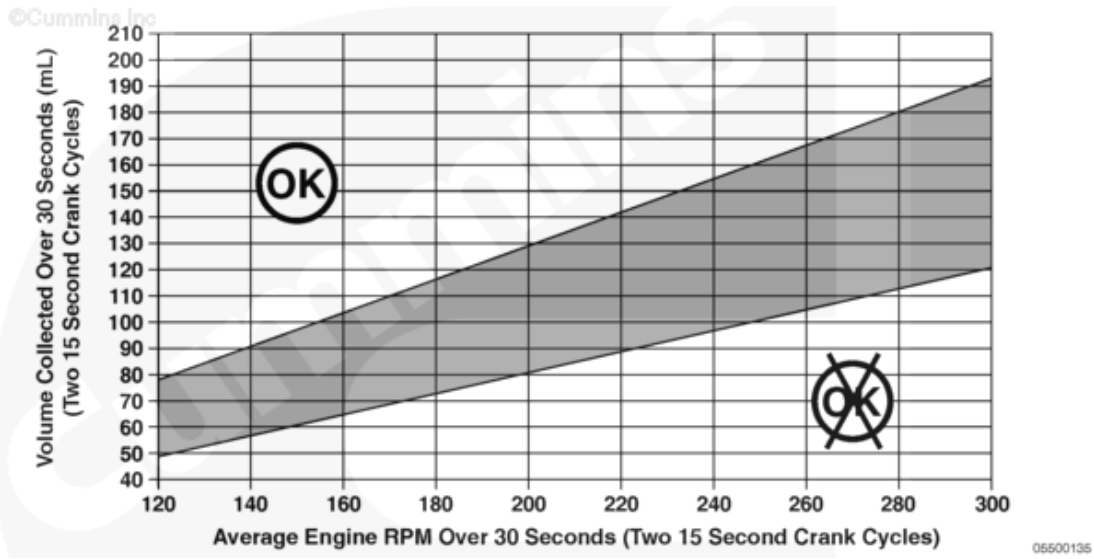
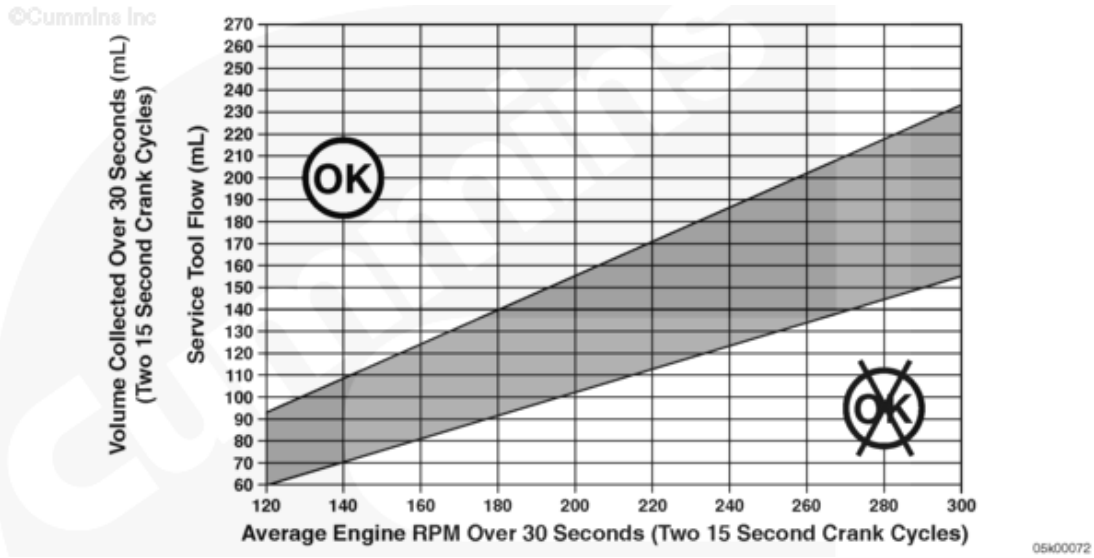
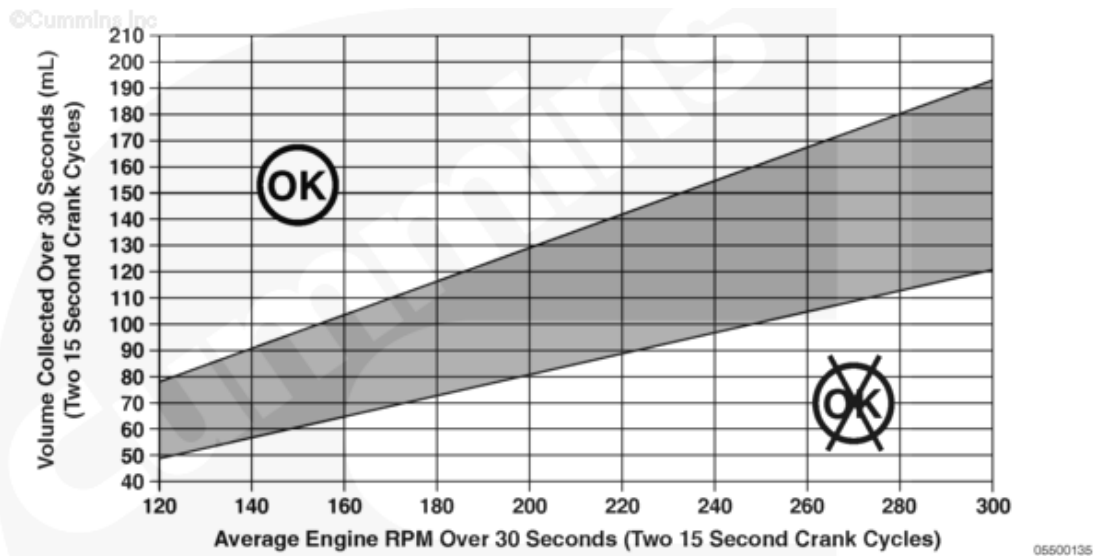

Figure 5, Engine Speed [ rpm ] Versus Service Tool Fuel Volume [ ml ] for All ISX/QSX CM2250 Engines.
Figure 6, Engine Speed [ rpm ] Versus Service Tool Fuel Volume [ ml ] for All ISX/QSX CM2350 Engines.
Figure 7, Engine Speed [ rpm ] Versus Service Tool Fuel Volume [ ml ] for All ISL/QSL CM2350 Engines.
- See graphs, Figure 5, 6 and Figure 7 below, to determine the minimum fuel volume from the high- pressure fuel pump service tool.
- For all ISX/QSX CM2250 and CM2350 engines, see Figure 5 and Figure 6 below.
- For all ISL/QSL CM2350 engines, see Figure 7 below.
For Figures 5 and 6 below:
2016-5-5	Updated Step 5 and 6 and Figure 4 and 5 axis explanations. Added Figure 7.
2017-2-9	Updated Figure 5 and Figure 6 and corresponding scenarios.